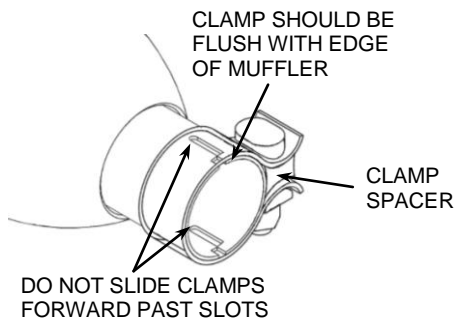

FIGURE 8
25. Adjust the mufflers fore and aft to align the front of the mufflers with the rear of the heatshields. Make sure there is a small gap between the front of the mufflers and the heatshields. Rotate the mufflers so they are level with the ground and then tighten the muffler mounting bolts and the clamps. (NOTE: The clamps should be flush with the end of the muffler inlet when tightened. If the clamps are slid past the slots on the muffler inlet the clamps will not tighten properly). See **FIGURE 8**.